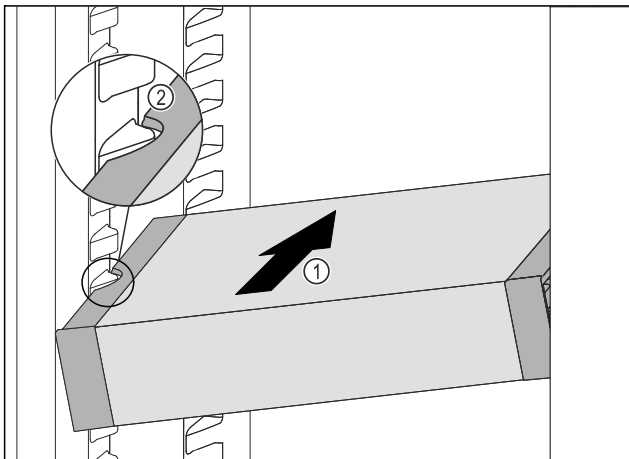

Fig. 51
- ▶ Insert the VarioSafe into the refrigerator compartment at an angle Fig. 51 (1) until the recesses in the side Fig. 51 (2) of the VarioSafe are at the level of the support rib in the refrigerator compartment.